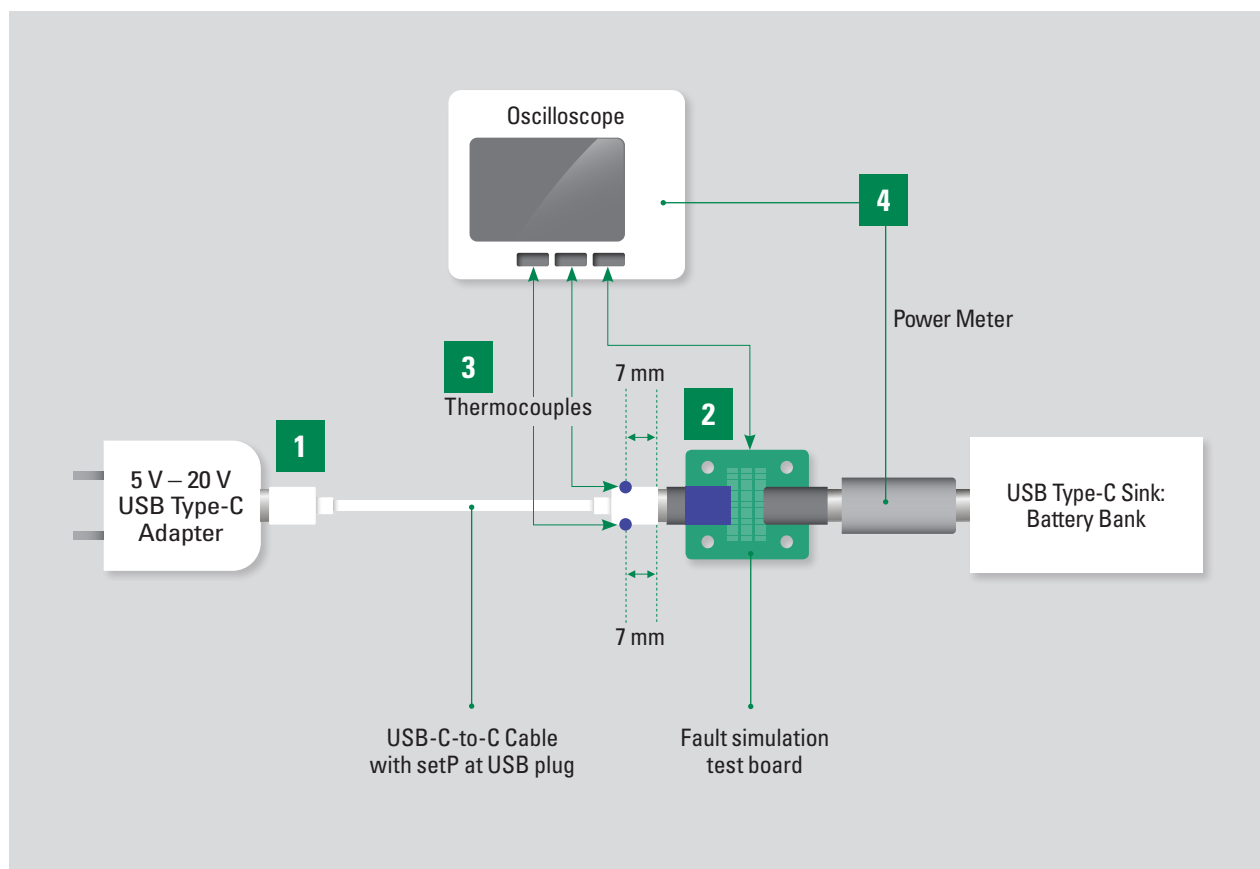

Figure 8. Design verification method 2 test setup
■ Design Verification Test Method 2: Contamination fault simulation test board (Figure 8)